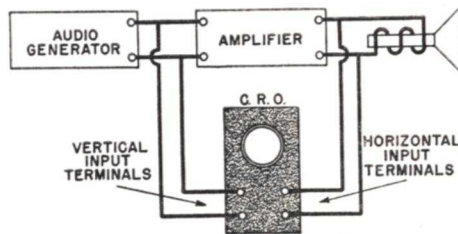

FIG. 20. The c.r.o. is shown connected here for determining phase shift.
► The connections are shown in Fig. 20. The vertical amplifier is connected to the signal coming from the audio signal generator. Then, the horizontal amplifier input is connected to the output of the amplifier, instead of to the timing circuit.